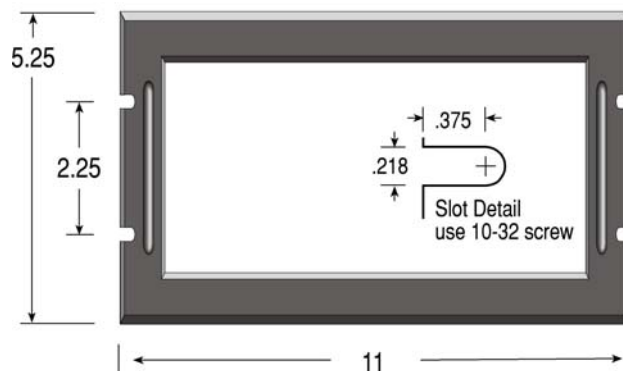

Figure 1 810-N1-24VDC dimensions
1. Securely mount the 810-N1-24VDC rack enclosure in accordance with Figure 1.